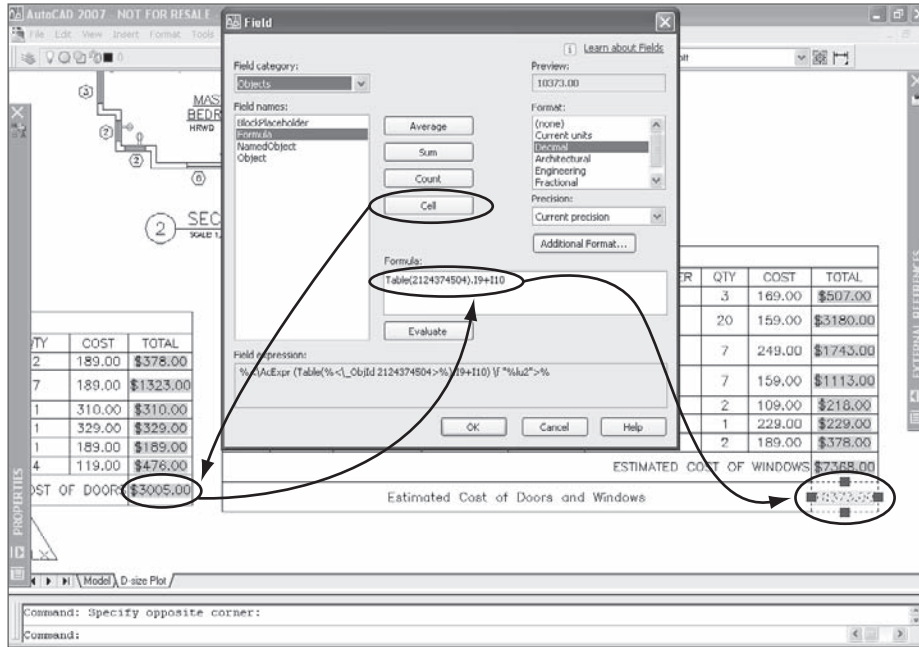

Figure 5.26
**Cell** In case you missed the significance of the italics, let me emphasize something: You can place the value of a cell into one table from a different table. To do that, you click the Cell button shown in Figure 5.26 and then select an individual cell in any existing table. That's pretty nifty. The resulting formula has the following format:  $\text{Tab1e}(2124374504) .i9+i10$ . The value (2124374504) is an internally assigned name for the individual table. It isn't assigned by the user.